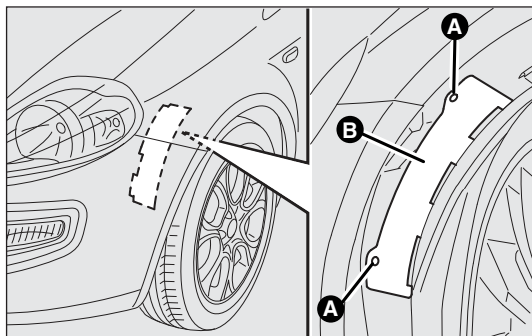

fig. 169
Front fig. 169
- ☐ turn the catch A-fig. 169, then lift off the access lid B;
- ☐ close the lid B-fig.169 then tighten the catch A.